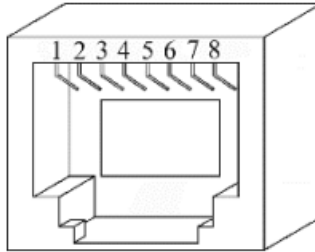

Figure 1 — RJ-45 Connector
- Two models support DC-coupled EIA-485 segments. The USB22-485 provides dual RJ-45 jacks and the USB22-485/S3 offers a 3-pin screw terminal. Each segment can be up to 900 feet of IBM type 3 (or better) STP or UTP cable while supporting up to 17 nodes. Make sure the phase integrity of the wiring remains consistent throughout the network. All phase A signals on NIMs and hubs must connect. The same applies to phase B. Refer to Figures 1 and 2 for connector wiring.
- Cabling rules are similar to those for DC-coupled NIMs. Wire nodes in a daisy-chain fashion. Refer to Figures 1 and 2 for connector pin assignments. Termination should only be applied to devices located at the two ends of the segment. Do not mix AC-coupled and DC-coupled devices on the same segment; however, bridging the two technologies is possible with active hubs that have appropriate transceivers.